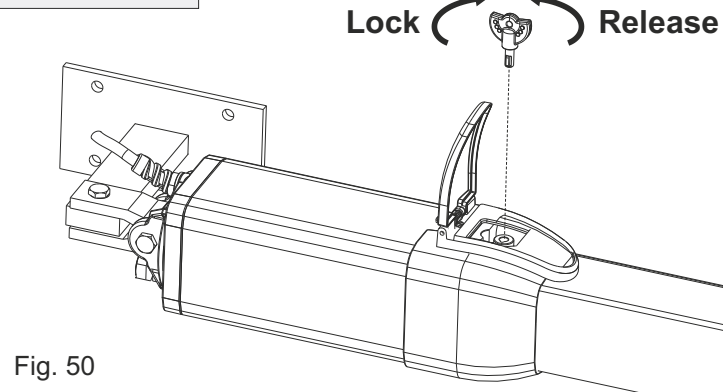
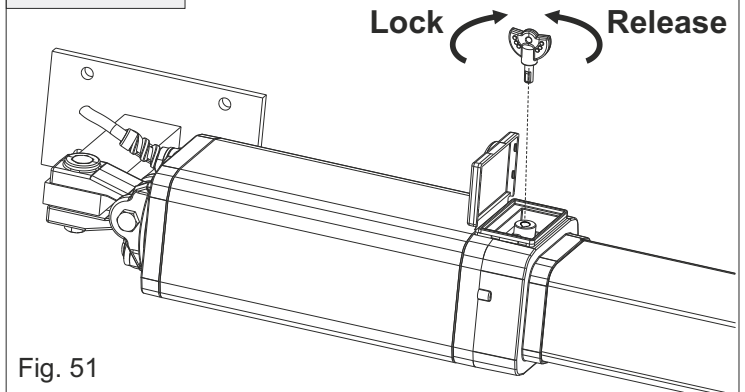

Fig. 50
Fig. 51
- 1) Unlock the operator (see the unlocking procedure in Fig. 49 and Fig. 50)
- 1) Unlock the operator (see unlocking procedure in Fig. 49 and Fig. 50)
- Insert the special release key and turn it anti-clockwise by 180° (Fig. 50 and Fig. 51)
- Insert the special release key and turn it clockwise until it closes (Fig. 50 and Fig. 51)